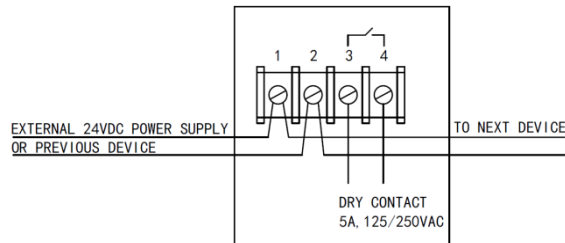

Figure 2. Wiring Diagram
2. Connect the wires, see Figure 2. There is no polarity distinction between terminal 1 and terminal 2.